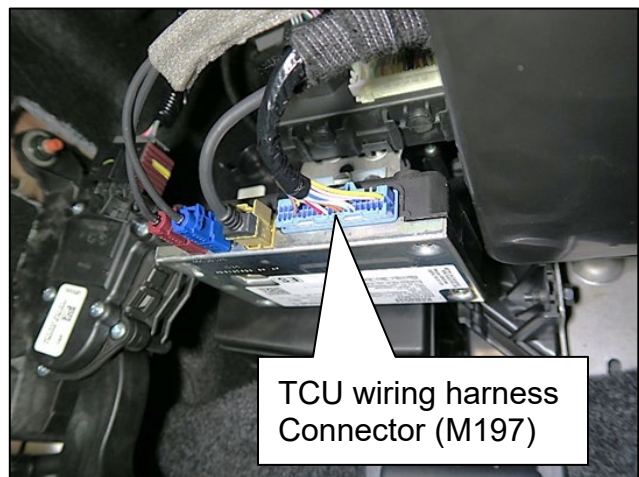

Figure 30
43. Reconnect the wiring harness connector M197 to the TCU (Figure 30).